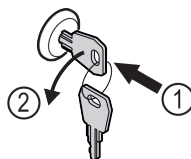

Fig. 170
- Insert the key. Fig. 170 (1)
- Turn the key anticlockwise by 90°. Fig. 170 (2)